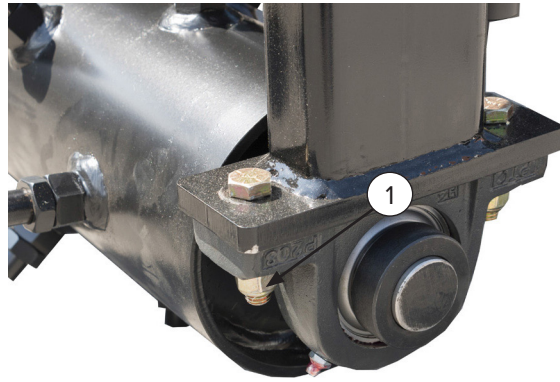

Figure 14
8. Remove the two bearing mount bolts (Item 1) [Figure 14].